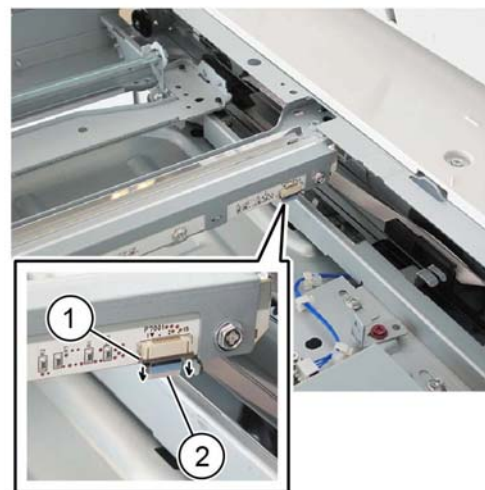

Figure 1 FFC LED cable assembly
3. Disconnect the FFC LED cable assembly, Figure 1:
- a. Move the connector housing catch (2) in the direction of the arrows.
- b. Disconnect the FFC LED cable assembly (1).